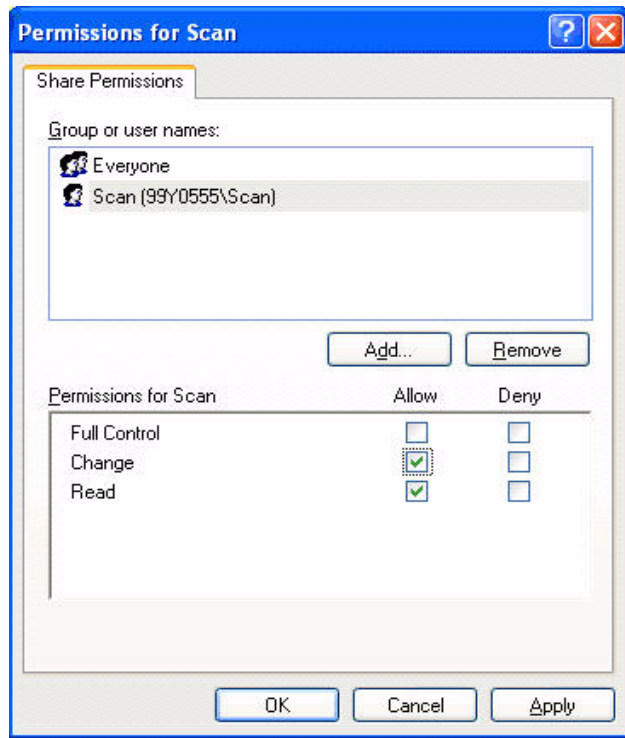

Figure 6 (Permission for Scan)
8. You should be at the Permissions window for your folder. Check the box(es) to allow **Change** and **Read** permissions for your user account (Figure 6).